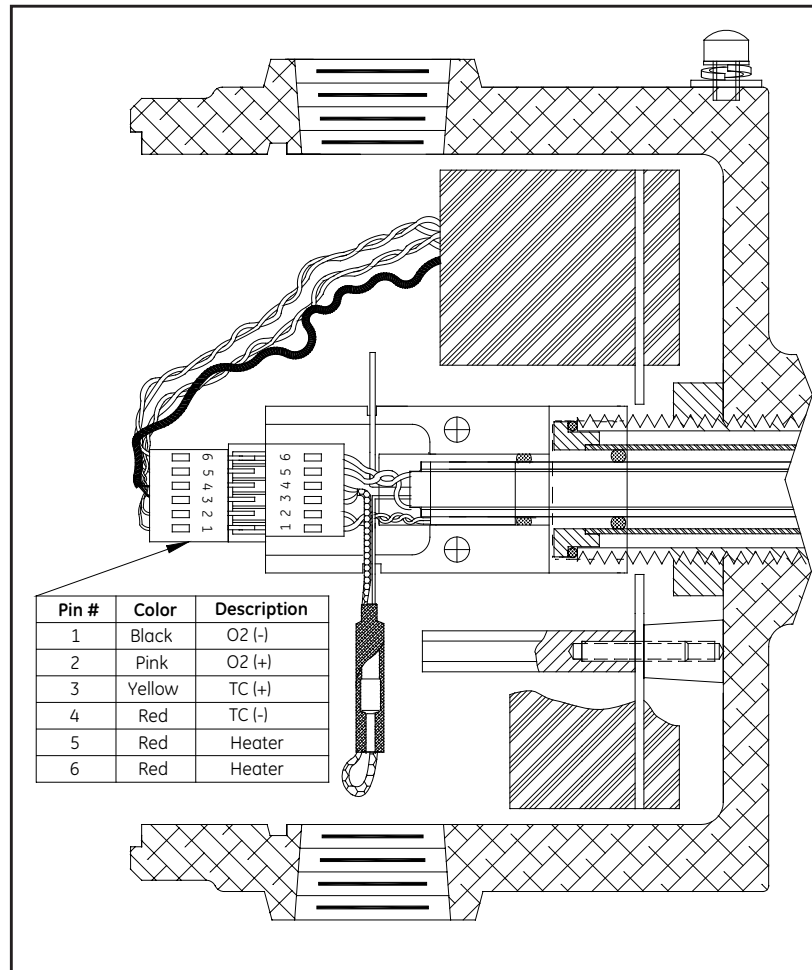

Figure 13: Sensor/Heater Connections
As an aid in following the troubleshooting procedures described in this chapter, the wiring connections for the FGA 311 sensor/heater sub-assembly are shown in *Figure 13*.
- a. Refer to “*Installation*” on page 7, including the wiring diagram in *Figure 6 on page 13*, and to *Figure 13 on page 46*. Make sure that all of the wires have been connected to the proper terminal blocks. Also, carefully inspect the wiring for shorts and be certain that all of the cable connectors are properly seated in their terminal blocks. Lastly, verify that each individual lead is still firmly seated in its connector.
- a.** Remove the electrical connector from the end of the sensor/heater sub-assembly (see *Figure 13 on page 46*).